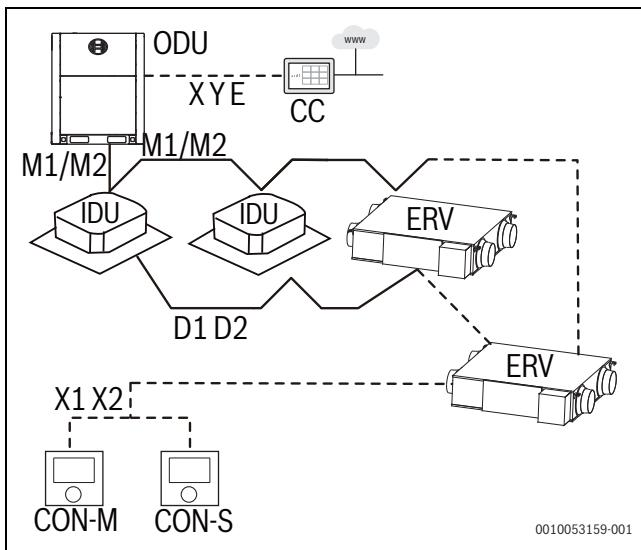

Fig. 18 Multiple ERV with one or more indoor units
- Group of up to 16 combined ERV or regular indoor units controlled by one or two (master/slave) controller (→ fig. 18).